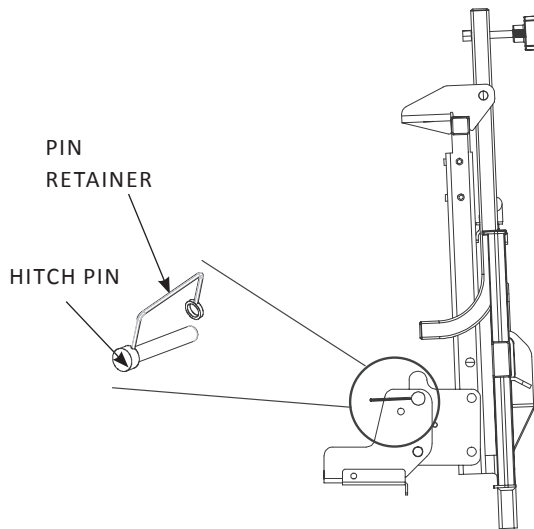

Figure 4-19
1. With the platform in the upright position, unhook the pin retainer and remove the hitch pin while bracing the AL003. *See Figure 4-19.*